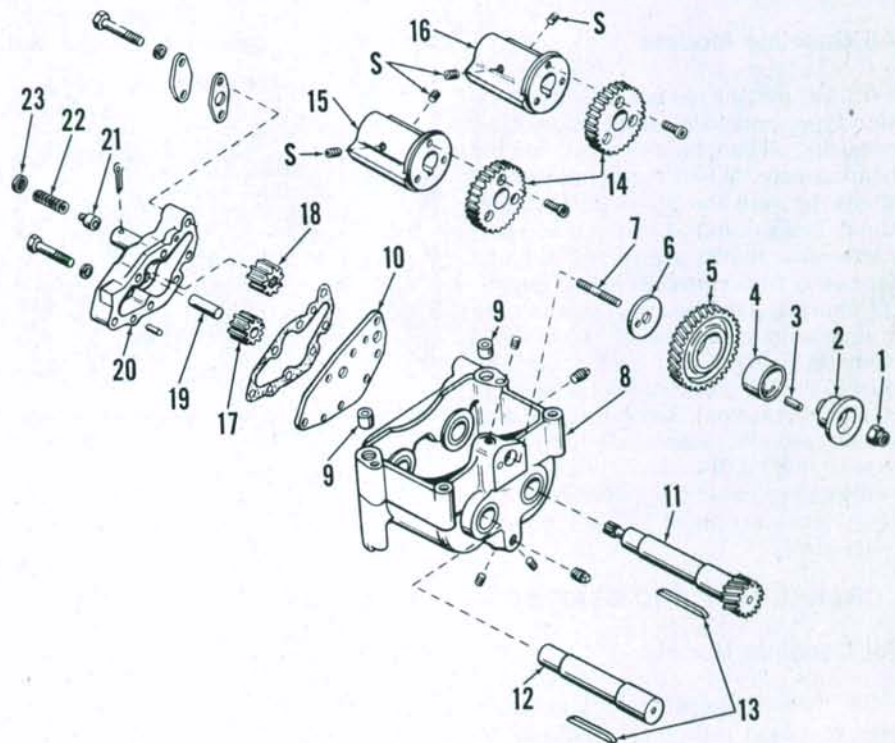
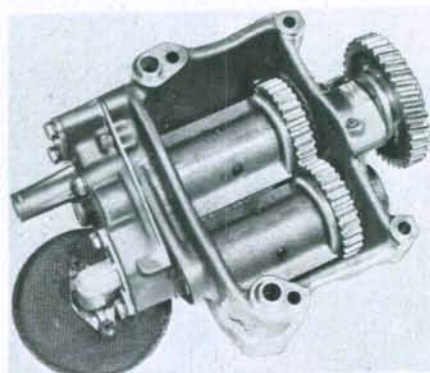

Fig. 40—Exploded view of Lanchester type engine balancer, engine oil pump and associated parts.
Fig. 39—Assembled view of removed engine balancer and oil pump unit. Refer to Fig. 40 for exploded view.
When installing balancer with engine in tractor, timing marks will be difficult to observe without removing gear cover. The balancer assembly can be safely installed as follows: Turn crankshaft until No.1 and No. 4 pistons are at the exact bottom of their stroke. Remove balancer idler gear (5—Fig. 40), if necessary, and reinstall with single punch-marked tooth of idler gear meshed between the two marked teeth on weight drive shaft as shown in Fig. 38. Install balancer frame with balance weights hanging normally. If carefully installed, timing will be correct although timing marks at front of engine may not be aligned. (Marks align only occasionally when engine is running.) If engine is mounted in stand or tractor front end is removed, timing marks can be observed by removing timing gear cover.
**36. OVERHAUL.** Refer to Fig. 40 for an exploded view of balancer frame and associated parts. To disassemble the removed balancer unit, unbolt and remove oil pump housing (20) and associated parts, and idler gear (5) and associated parts. Set screws (S) retaining balance weights (15 and 16) are installed using "Loctite 242
Inspect all parts for wear or damage. Bushings in balancer frame are not available separately. If bushings are excessively worn, balancer frame must be renewed. Refer to Fig. 40 for identification of parts and following table for specifications.
When assembling balancer, use Loctite 242 Threadlocker when installing screws retaining gears (14—Fig.40) to balance weights (15 and 16) and the set screws (S) retaining balance weights to shafts. Make sure flat surfaces of weights are aligned when installed as shown in Fig. 39.
40. The gear type oil pump is mounted on engine balancer frame and driven by balancer shaft. Refer to Fig. 40. Oil pump can be removed after removing engine oil pan.
41. The plunger type relief valve is located in oil pump body as shown in Fig. 40. Oil pressure should be 210-380 kPa (30-55 psi) at full engine speed with engine at normal operating temperature. Valve spring is retained by a cap and cotter pin.